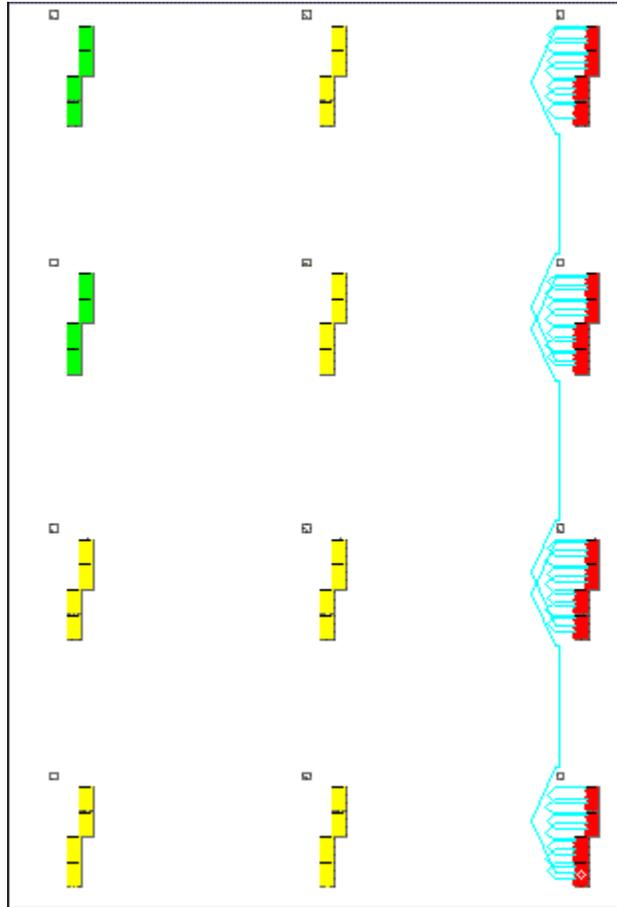

Figure 10: Correct Placement of tap_dly Circuits
6. If the tap delay circuit is properly constrained, the logic is located in a single column in four sequential Configurable Logic Block (CLBs). This will indicate the RLOC_ORIGIN is correct. Figure 10, page 107 is a screen capture showing an example of the correct placement of the tap_dly circuits.